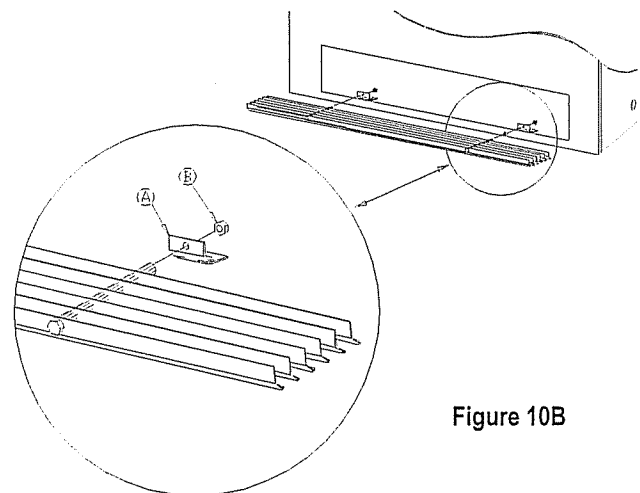

Figure 10B
3. **Lower grill - Install: See Figure 10B**
- A) Remove the 1/4" nuts (B) from the lower grill assembly.
B) Slip the bolt through the hinge (A).
C) Re-attach the 1/4" nut (B).